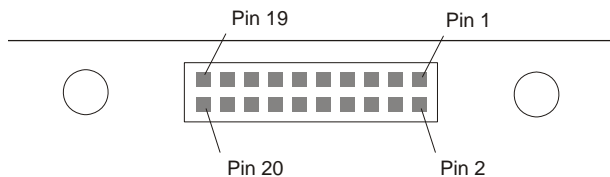

Figure 36: Top-view of 20-Pin Connector on the OEMV-1
- g. See also *Figure 36 on Page 104* and its table.